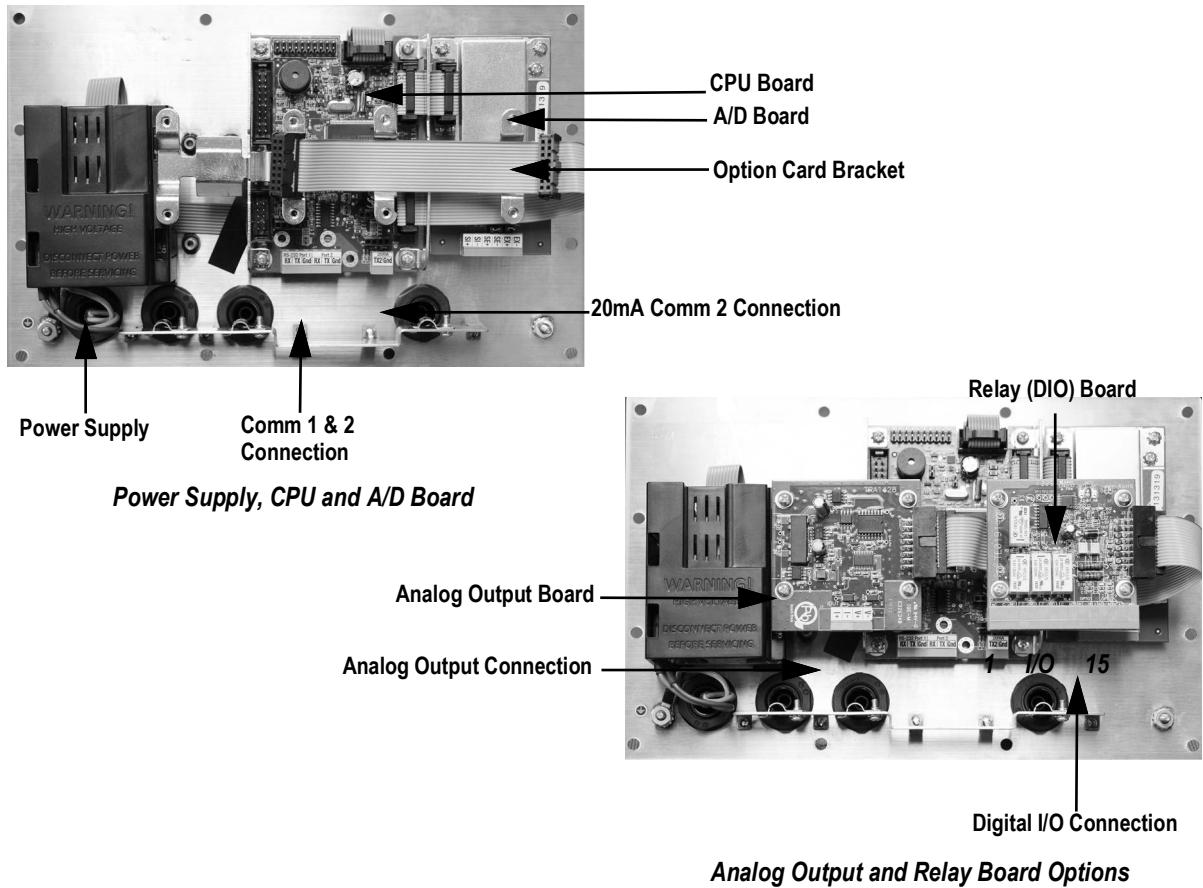

Figure 2-5. 482 Board Options
3. If not already in place, install an option card bracket (PN 131340), See Figure 2-5 on page 19.
4. Mount the analog output module or relay card on the option card bracket. See Figure 2-5 on page 19.